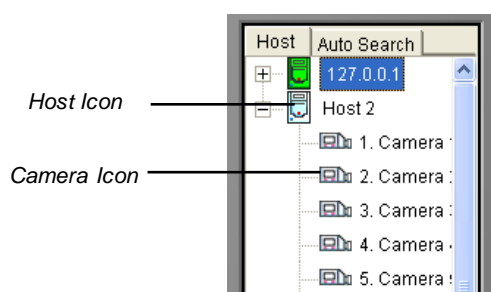

Figure 8-36 The Host List
6. Click the **Save** button. The host will appear in the Host List (Figure 8-36) with the given ID name.
4. To set up each camera channel of the Multiple Hosts, click the **Edit** tab one at a time. Alternatively, you can click and drag the created camera channel from the Host List (Figure 8-36) to each **Edit** tab. Note that all created camera channels must be added to each **Edit** tab in the order of 1 to 32.
1. Select a PTZ capable camera from the monitoring window, or double-click it on the Host List (Figure 8-36).